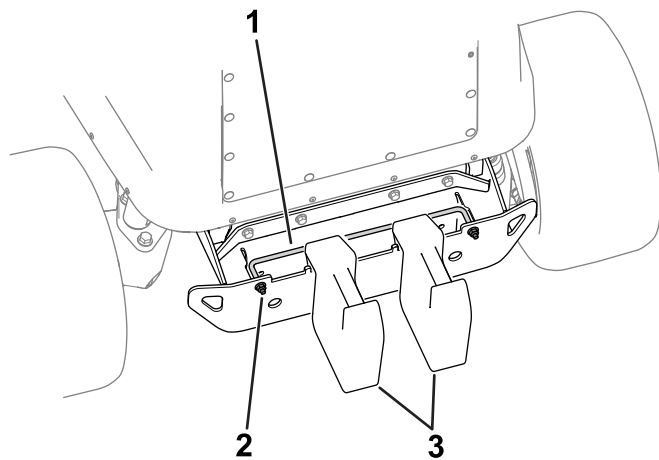

Figure 15
1. Loosen the hardware (Figure 15) that secures the weight lock rod to the bumper.
2. Add 2 weights to the bumper as shown in Figure 15.
3. Tighten the weight-lock-rod hardware (Figure 15) to secure the weight to the bumper.